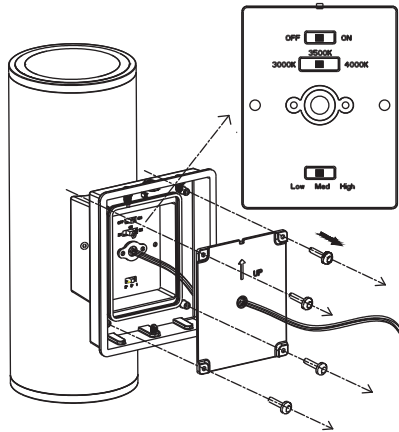

Figure 2
- Remove the four screw and open the back cover to select desired settings. See setting guidance on next page. (Figure 2)